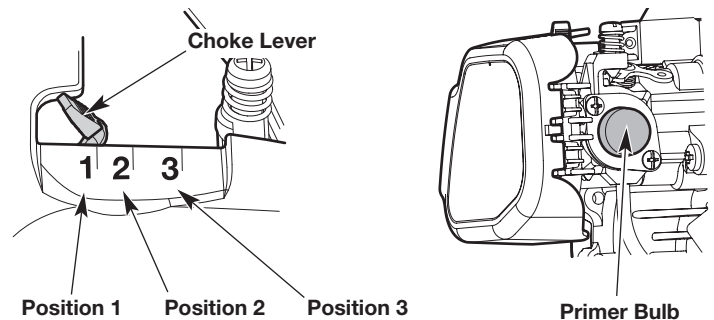

Fig. 13
1. Slowly press and release the primer bulb **10 times** (Fig. 13). If fuel cannot be seen in the primer bulb, press and release the primer bulb until fuel is visible.
2. Move the choke lever to **Position 1** (Fig. 13).
6. Move the choke lever to **Position 2** (Fig. 13).
9. Move the choke lever to **Position 3** (Fig. 13). Allow the engine to warm up for an additional 60 seconds. The unit may be used during this time.
**IF...** the engine hesitates, return the choke lever to **Position 2** (Fig. 13) and continue the warm-up.